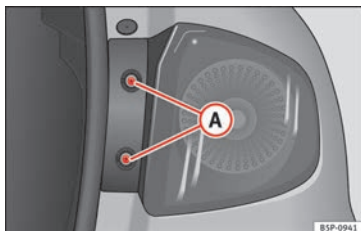

Fig. 184 Side lights and brake lights.
- Remove the bolts » **Fig. 184 A**.